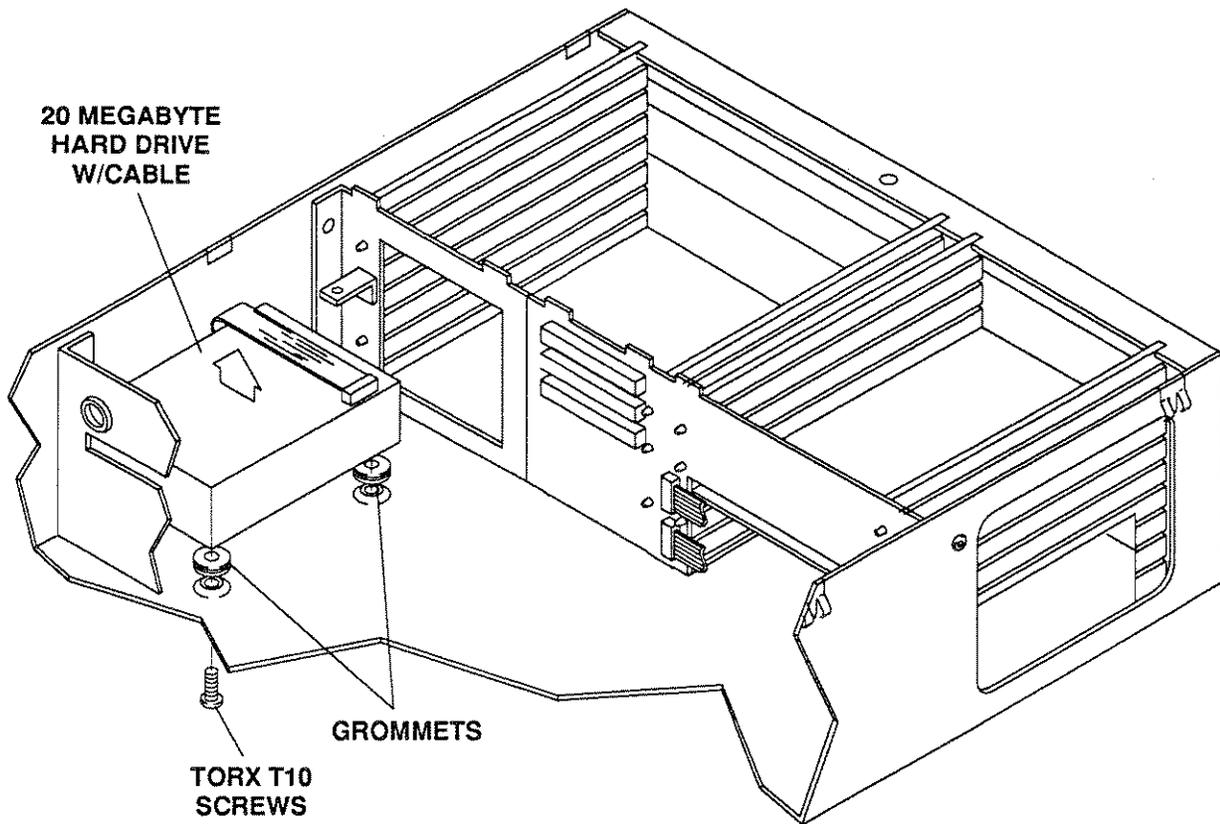

Figure 8-19. Remove and Replace Optional 20 Mbyte Hard Disk Drive Assembly
5. Remove three Torx T10 screws, then lift and remove Disk Drive Assembly (see Figure 8-19).